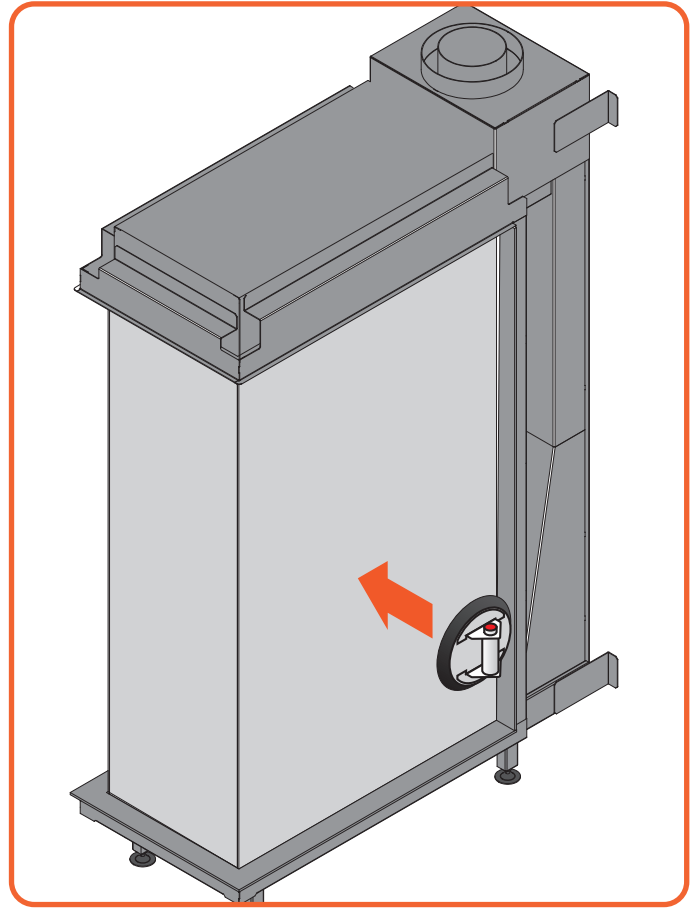

Figure 12.8 | Place Suction cup on the glass
- Lift the glass out of the lower glass rail and tilt it out through the opening, as seen in Figure 12.8.